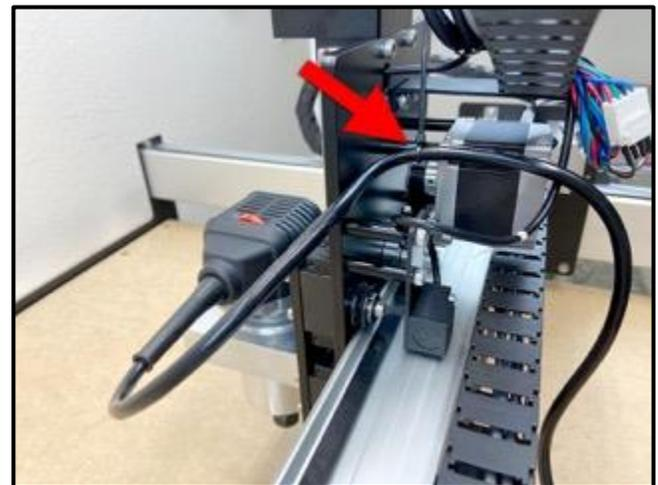

Figure 10-6
1. Loop the router cable behind the Z-Plus as shown in *Figure 10-6*.
2. Use one (1) cable tie to secure the power cord to the **TOP-RIGHT** X-motor standoff at the back of the Z-Plus. See *Figure 10-6*.